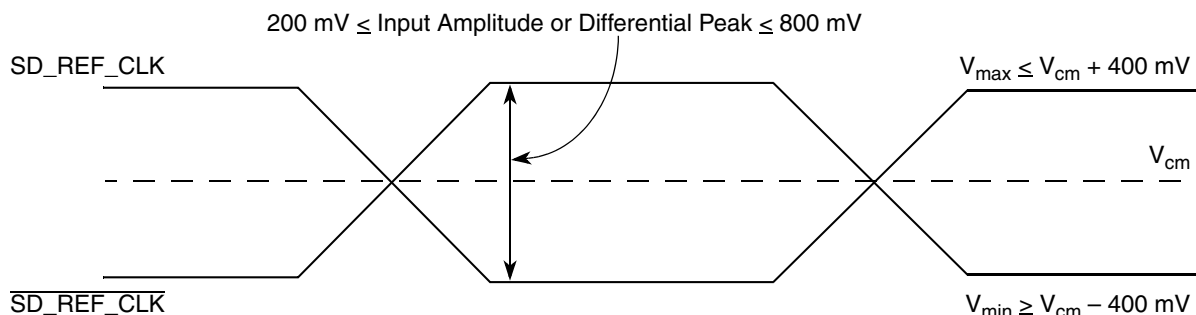

**Figure 41. Differential Reference Clock Input DC Requirements (External AC-Coupled)**
- For external AC-coupled connection, there is no common mode voltage requirement for the clock driver. Since the external AC-coupling capacitor blocks the DC level, the clock driver and the SerDes reference clock receiver operate in different command mode voltages. The SerDes reference clock receiver in this connection scheme has its common mode voltage set to SGND\_SRDSn. Each signal wire of the differential inputs is allowed to swing below and above the command mode voltage (SGND\_SRDSn). Figure 41 shows the SerDes reference clock input requirement for AC-coupled connection scheme.